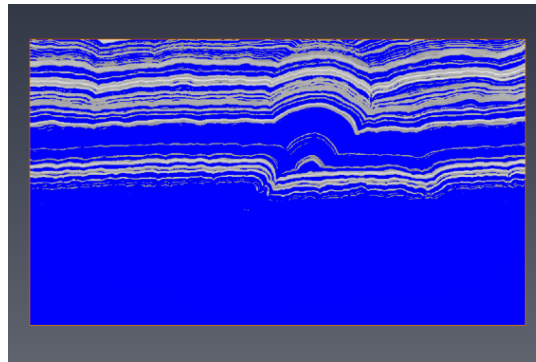

Figure 8.88: Intensity thresholding.
- Change the lower threshold value. You can see the non-uniform distribution of background intensity. See figure 8.88.